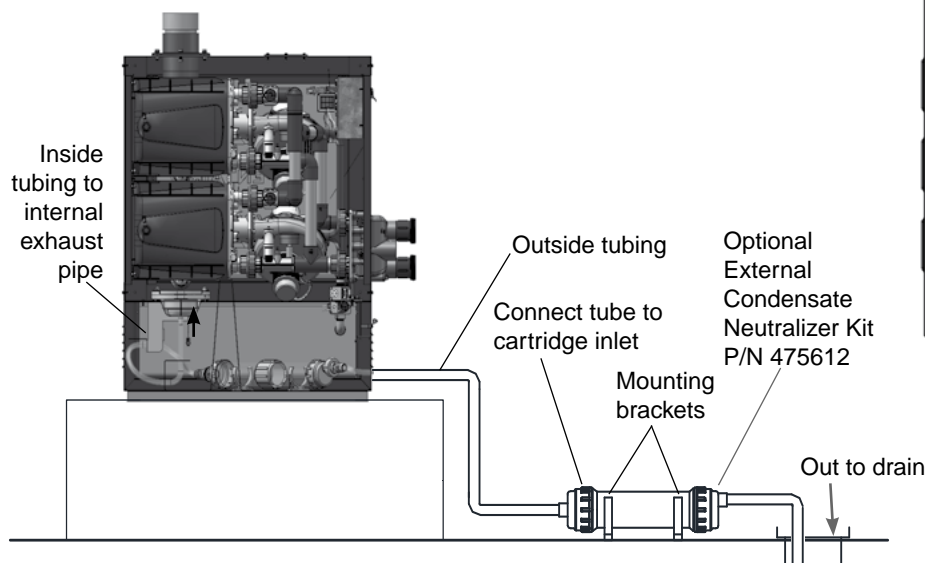
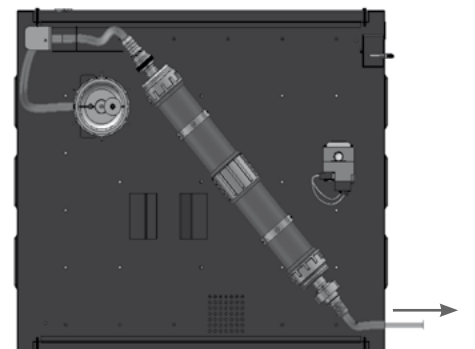

Figure 31. External Neutralizer Cartridge for indoor heater Installation
Figure 32. Internal Neutralizer Cartridge installed on base of heater for outdoor heater Installation
3. **Indoor Heater Installation (Figure 31):** Mount the neutralizer cartridge on the floor near the side of the heater. **Outdoor Heater Installation (Figure 32):** Using the provided brackets, secure the neutralizer cartridge onto the heater base.
#### **TIME CLOCK/FIREMAN'S SWITCH (See Figure 31 above):**